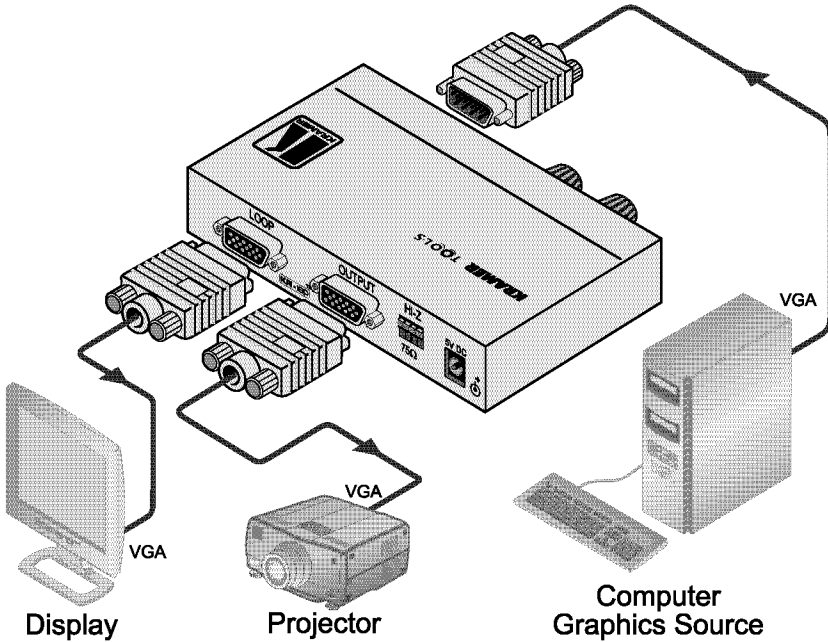

Figure 2: Connecting the VP-210K UXGA Line Amplifier
To connect your **VP-210K UXGA Line Amplifier**, as shown in the example in *Figure 2*, do the following¹:
1. Connect a computer graphics source (for example, a computer) to the INPUT 15-pin HD (F) connector.
2. Connect the OUTPUT 15-pin HD (F) connector to an acceptor (for example, a projector).
3. Connect the LOOP 15-pin HD (F) connector to an acceptor (for example, a local display).
4. Connect the 5V DC power adapter to the 5V DC socket and connect the transformer to the mains electricity (not illustrated in *Figure 2*).